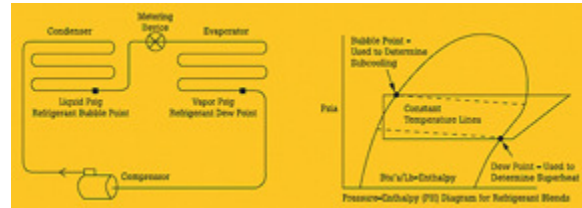

Figure 2. Superheat temperature measurement points. (Click on the illustration to view a larger image.)
On newer refrigerant blends, the temperature changes during the boiling or saturation phase. This is referred to as glide. Modern refrigerants with a temperature glide of 10°F (5°C) or higher use dew point (DP) temperature. This is the temperature of the refrigerant when the last of the liquid has boiled into a vapor. Any vapor temperature increase above the dew point temperature is called superheat. (See Figure 2.)
In the system's condenser, conversion of vapor to liquid involves removing heat from the refrigerant at its saturation condensing temperature. Any additional temperature decrease is called subcooling. Finding liquid line subcooling requires determining the condensing pressure and two temperatures – the condensing temperature at the measured condensing pressure and the temperature of the refrigerant at the outlet of the condenser on the liquid line. The liquid line temperature involves measuring the surface temperature of the pipe at the outlet of the condenser. (See Figure 4.) Note: Condensing temperature is derived from using the PT chart. On new refrigerant blends with high temperature glide, this is called the bubble point (BP) temperature. See Figure 2.